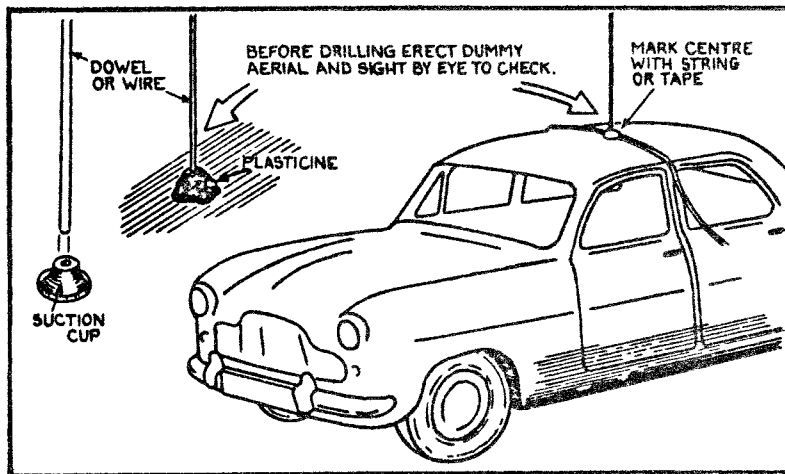

FIG. 3.2.
- 3.3.1. It is essential that the aerial is mounted vertically in a position clear of all obstructions on a substantially flat surface. The best position for the aerial on a closed vehicle is undoubtedly a central position on the metallic roof. It is advisable, however, to check the position for symmetry and appearance before actually commencing to install the aerial. Various methods of doing this are shown in Fig. 3.2. below.